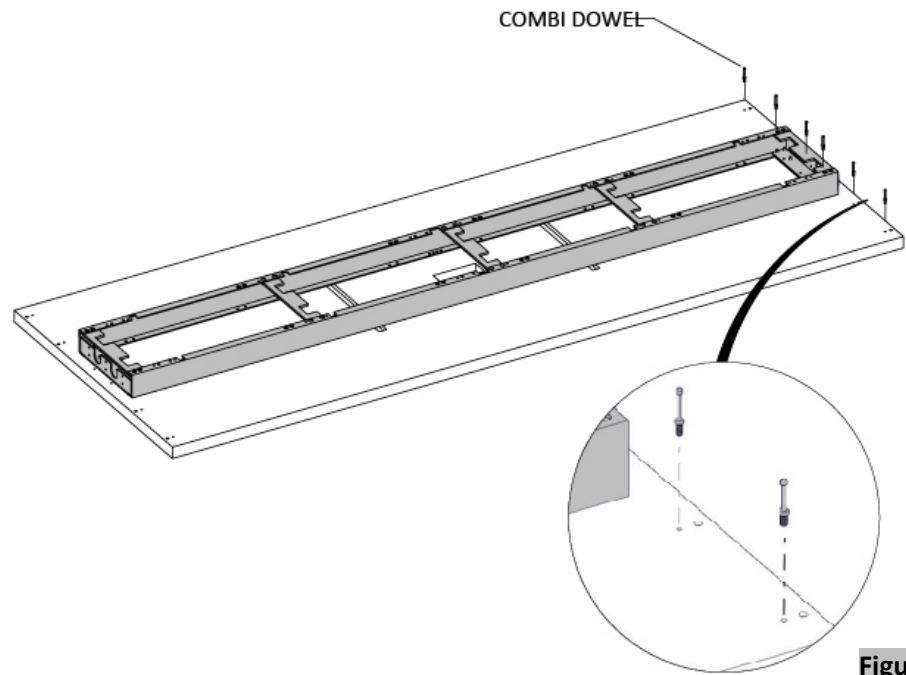

Figure 3
- 3. Attach the combi dowels by screwing them into the pre-bored holes, (Figure 3).